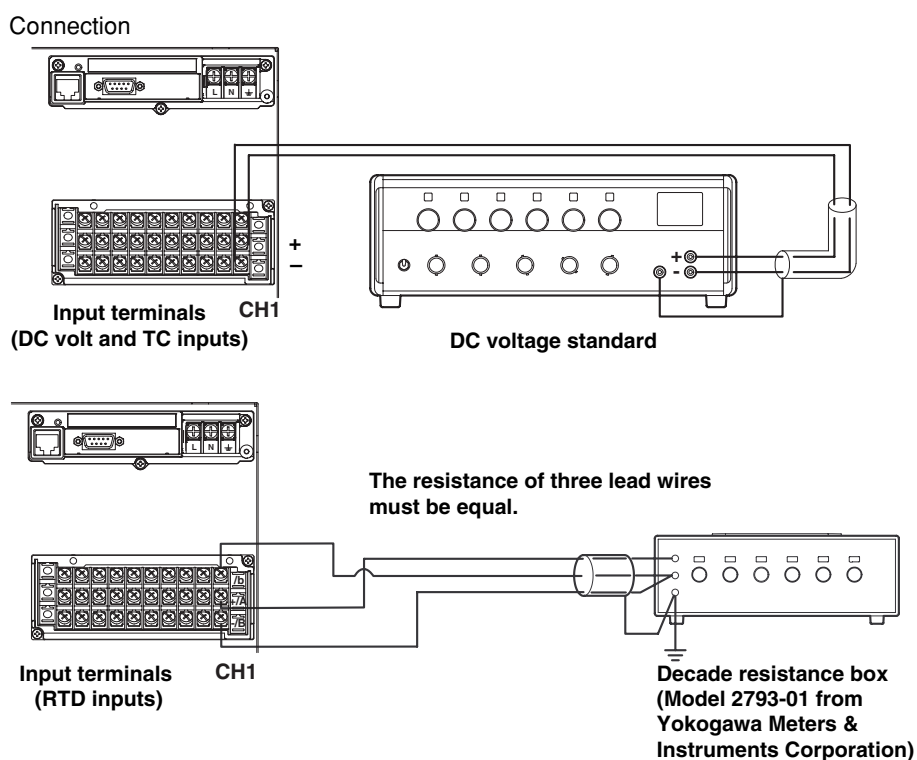

Figure 2.1 Connection diagram
- 1 Connect the equipment as shown in Figure 2.1